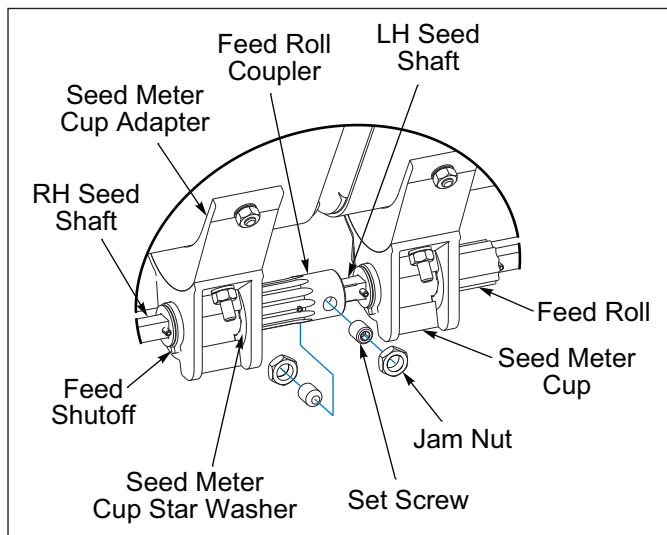

Figure 5-7: Seed Shaft Coupler
All Seed Meters should be closed. Seed Meter Feed Shutoff against Seed Meter Cup Star Washer in Seed Meter Cup. **See Figure 5-7.** If not, there are three adjustments to make as needed.
2. Seed Box Feed Roll Coupling which joins the left and right Seed Shafts changes Seed Meters on the left Seed Box in comparison with Seed Meters on the right Seed Box. To adjust Feed Roll Coupling, loosen Jam Nuts and Set Screws on Coupling RH Seed Shaft is treaded into Coupling. Turn RH Seed Shaft threading it in or out as needed to equalize Seed Meters. Re-tighten Set Screws against flat side on Seed Shaft, re-tighten Jam Nuts. **See Figure 5-7.**